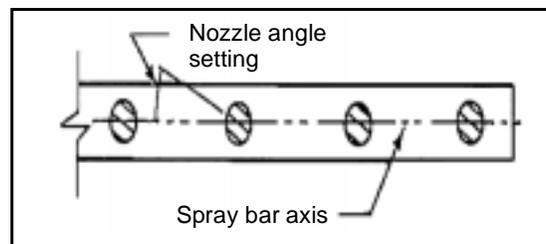

Figure 12-3. Proper Nozzle Angle Setting
- Nozzle angle setting.** To attain a good edge, the end nozzles are often set at a different angle ( $60^\circ$  with respect to the spray bar) from the other nozzles. Do not permit this practice because it produces a fat streak on the edge and robs the adjacent spray fan of the lap from this nozzle. A curtain on the end of the bar or a special end nozzle with all nozzles set at the same angle gives more uniform coverage and makes a better edge (Figure 12-3).